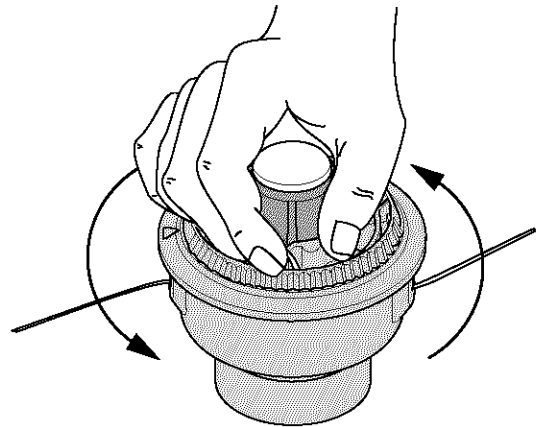

Fig. 24
8. Hold the outer spool. Wind the inner reel counterclockwise until approximately four (4) inches (102 mm) of line remain (Fig. 24).